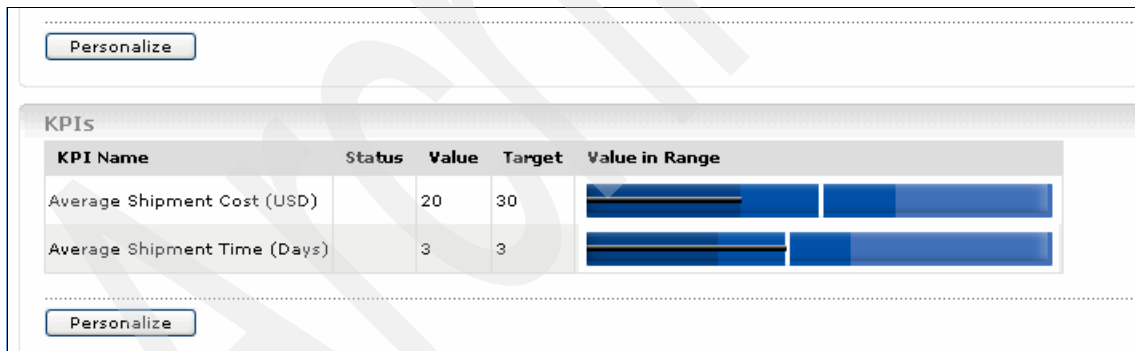

Figure 9-60 KPI portlet after running the test
2. Update the dashboard as shown in Figure 9-60.